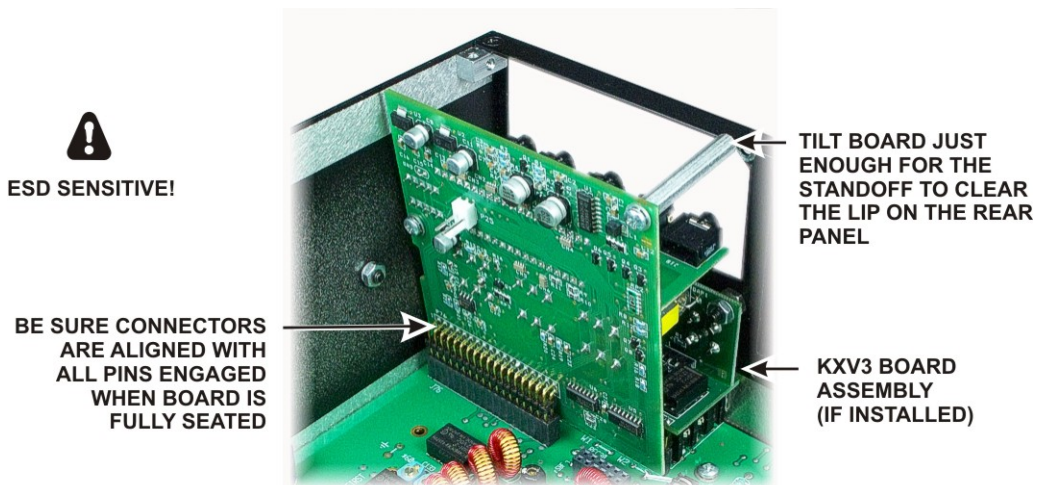

Figure 33. Installing KIO3 Main Board.
□ Install the KIO3 Main board with the Audio I/O daughter board attached into the K3 as shown in Figure 33. The KIO3A main board plugs into J76 on the RF board. If the KXV3 is installed, the coaxial TMP cable fits between the KXV3 and KIO3 boards. Ensure the connectors are fully mated so the standoffs line up with the screw holes on the rear panel.